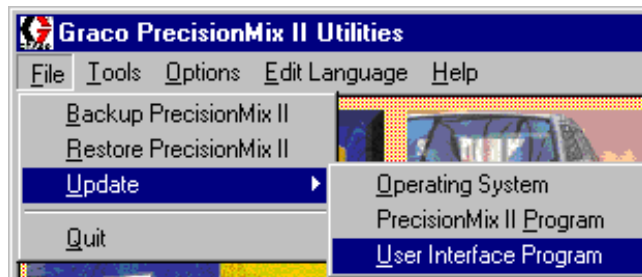

Fig. 13.36
1. Select File ► Update ► User Interface Program (Fig. 13.36) or press the Update User Interface Program button (Fig. 13.37).